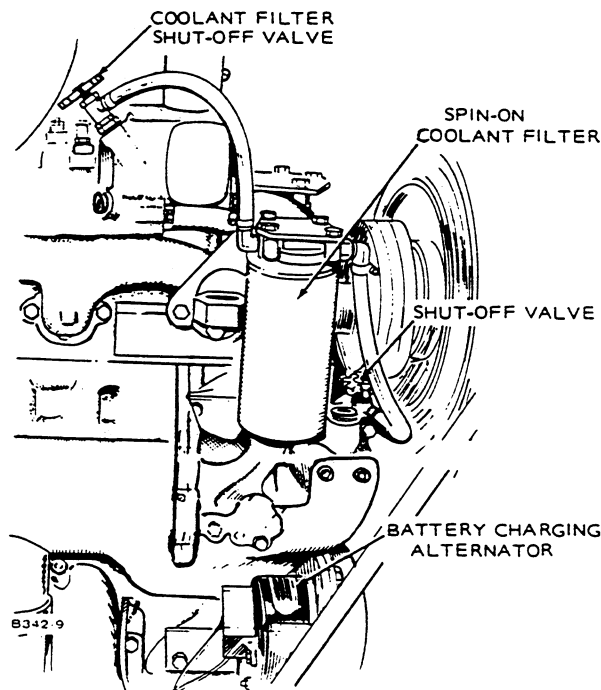

FIGURE 8. COOLANT FILTER
1. Close the shutoff valves (Figure 8).